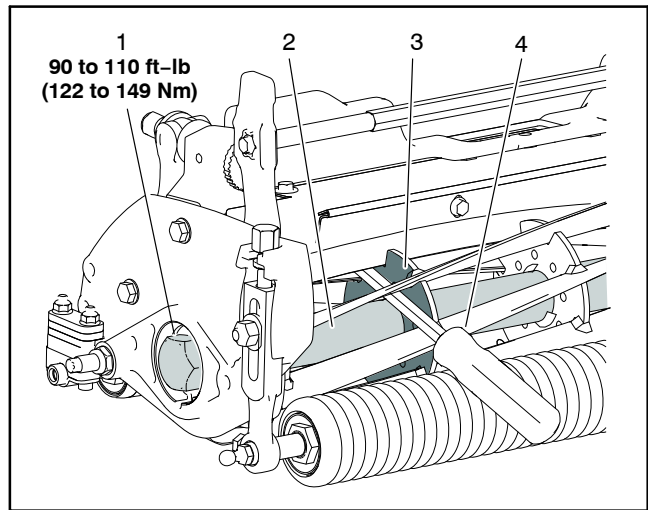

Figure 28
A. Insert a long-handled pry bar (3/8 x 12 inch with a screwdriver handle recommended) through the front of the cutting unit. The pry bar should pass between the top of the reel shaft and the backs of the reel blades so that the reel will not move (Fig. 28).